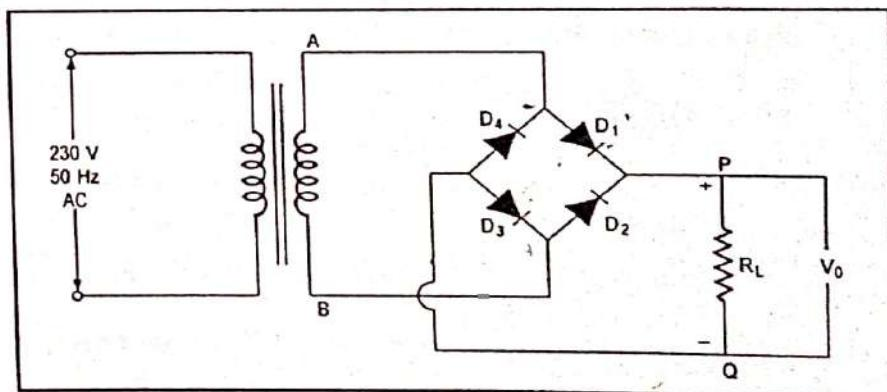

FIGURE 3.7 : Circuit Diagram of Bridge Fullwave Rectifier
Fullwave operation can be obtained even without the centre tapped transformer in bridge rectifier. It contains four diodes  $D_1$ ,  $D_2$ ,  $D_3$  and  $D_4$  connected from bridge as shown in Fig.3.7 Alternating voltage is applied to the diagonally opposite ends of the bridge through the transformer. Between other ends of the bridge the load resistance  $R_L$  is connected.
**d.c Power :** The output current is pulsating direct current. Therefore in order to find the d.c power average current has to be found out. From the Figure 3.7 and 3.8. We can observe that the current  $i$  is a unidirectional current.
Referring to Fig.3.7, when end A is positive, diode  $D_1$  conducts whereas diode  $D_2$  does not conduct. By studying the circuit A D1 D2 B it is easy to see that whole of the secondary voltage is applied in the reverse direction across  $D_2$ . Hence PIV of each diode is equal to the maximum secondary voltage.